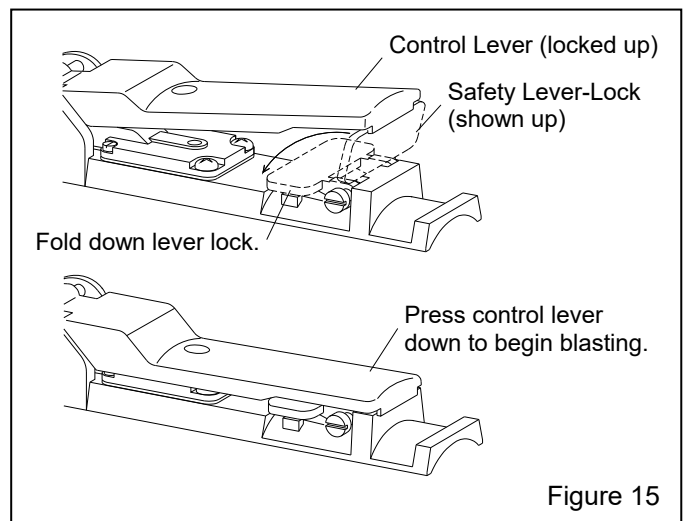

Figure 15
3.3.4 Fold down the safety lever-lock and press the remote control handle, as shown in Figure 15. Within a few seconds the pop-up valve will automatically close, and the blast machine will pressurize to start blasting.